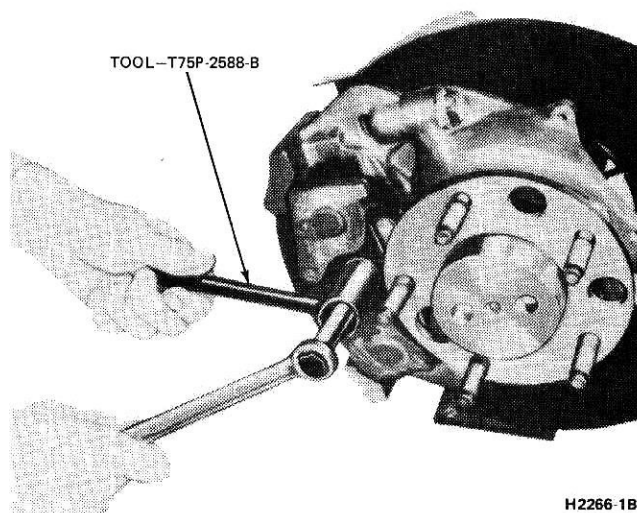

FIG. 16 Adjusting Piston Depth—Rear Disc Brake
2. If new shoe and lining assemblies are to be installed, the piston must be screwed back into the caliper bore using Tool T75P-2588-B to provide installation clearance. Remove the rotor and install the caliper, less shoe and lining assemblies, in the anchor plate with the key only. While holding the shaft, rotate the tool handle counterclockwise until the tool is seated firmly against the piston (Fig. 16). Now, loosen the handle about 1/4 turn. While holding the handle, rotate the tool shaft clockwise until the piston is fully bottomed in its bore (the piston will continue to turn even after it becomes bottomed). When there is no further inward movement of the piston and the tool handle is rotated until there is firm seating force, the piston is bottomed. Remove the caliper from the mounting plate and reinstall the rotor.
3. Be sure that the brake shoe anti-rattle clip is in place in the lower inner brake shoe support on the anchor plate with the loop of the clip toward the inside of the anchor plate (Fig. 16). Position the inner brake shoe and lining assembly on the anchor plate with the lining toward the rotor.